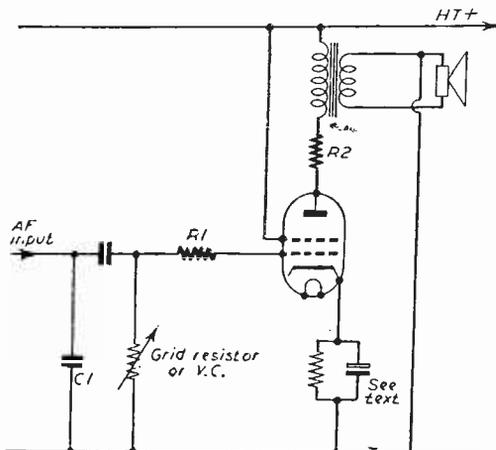

Fig. 2.—H.F. stoppers are shown here at R1 and R2.
**Output Stage (Fig. 2)**
The additions that can be made to this circuit are shown in Fig. 2 and consist of a grid-stopper of 5,000 ohms to prevent any residual I.F. voltages from reaching the grid of the output valve and causing instability. R2 can be added as an anode stopper against parasitic oscillation. Remember, this resistance must carry the full anode current and must be capable of doing this without overheating. A resistor rated at three watts will be suitable for most valves likely to be found in the average receiver.